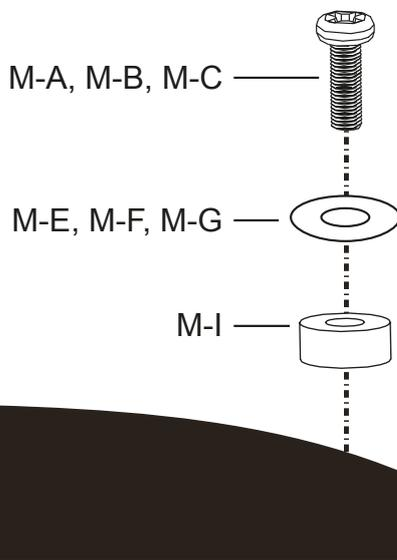

Figure 5
4. Once the bolts and washers have been identified, gently put your TV Wall Mount on the back of the TV so that the mounting holes are showing the TV Wall Mount. If the back of your TV is curved or recessed (see Figure 5) you will need to use a hole spacer (M-I) to clear the space. If using spacers you will now need to use longer screws. Remember that the bolt needs to turn at least 3 full turns.